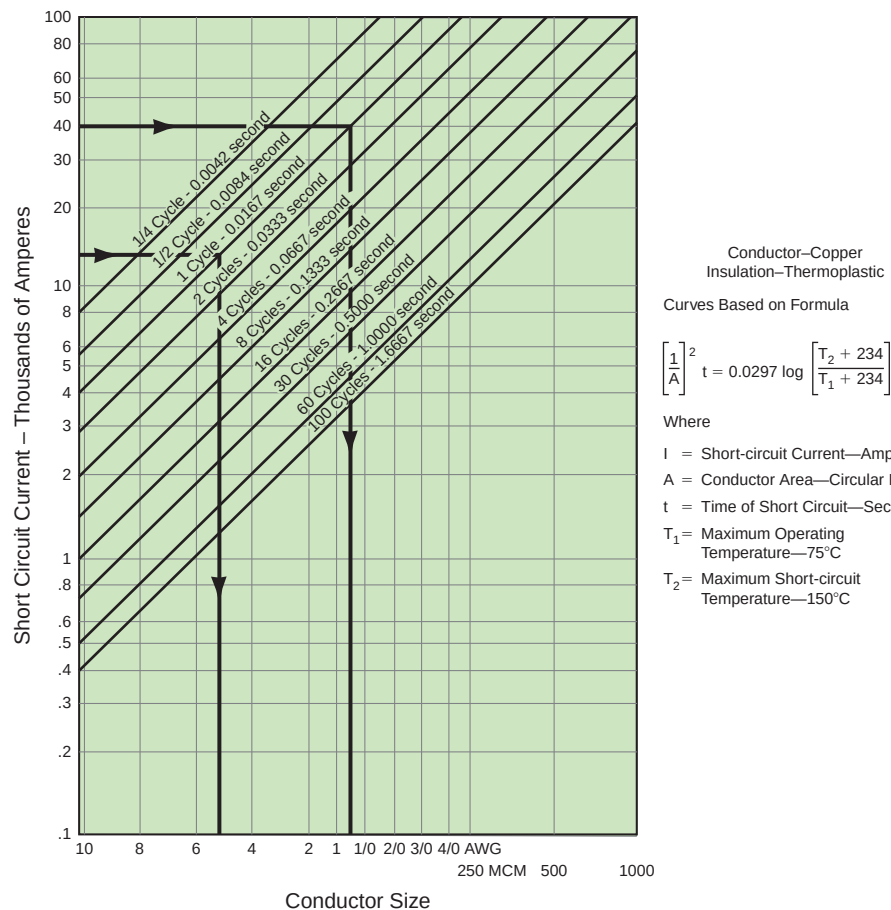

FIGURE 19-3 Withstand rating for insulated copper conductors.
the insulated circuit conductors, the weakest link of the system would be the insulation on the circuit conductors. Therefore, the conservative approach when considering conductor safe withstand ratings is to apply the 1 AMPERE—FOR 5 SECONDS—FOR EVERY 42.25 CIRCULAR MILS formula, or simply refer to a conductor short-circuit withstand rating chart, such as Figure 19-3.
The Insulated Cable Engineers Association, Inc., publishes much data on this subject. The graph in Figure 19-3 shows the withstand rating of 75°C thermoplastic insulated copper conductors. Many engineers use these tables for bare or insulated equipment grounding conductors because, in most cases, the equipment grounding conductor is in the same raceway as the ungrounded or grounded conductors. An extremely hot equipment grounding conductor in contact with the phase conductors would damage the insulation on the phase conductors. For example, when nonmetallic conduit is used, the equipment grounding conductor and the phase conductors are in the same raceway.
A circuit is protected by a 60-ampere overcurrent device. Determine the minimum size equipment grounding conductor for available fault currents of 14,000 amperes and 40,000 amperes. Refer to *NEC Table 250.122*, the fuse peak let-through chart, and the chart showing allowable short-circuit currents for insulated copper conductors, Figure 19-3.
11. Referring to Figure 19-3, if the available fault current is 10,000 amperes and the overcurrent device has a total clearing time of one cycle, the minimum permitted copper 75°C thermoplastic insulated conductor would be a _____ AWG.